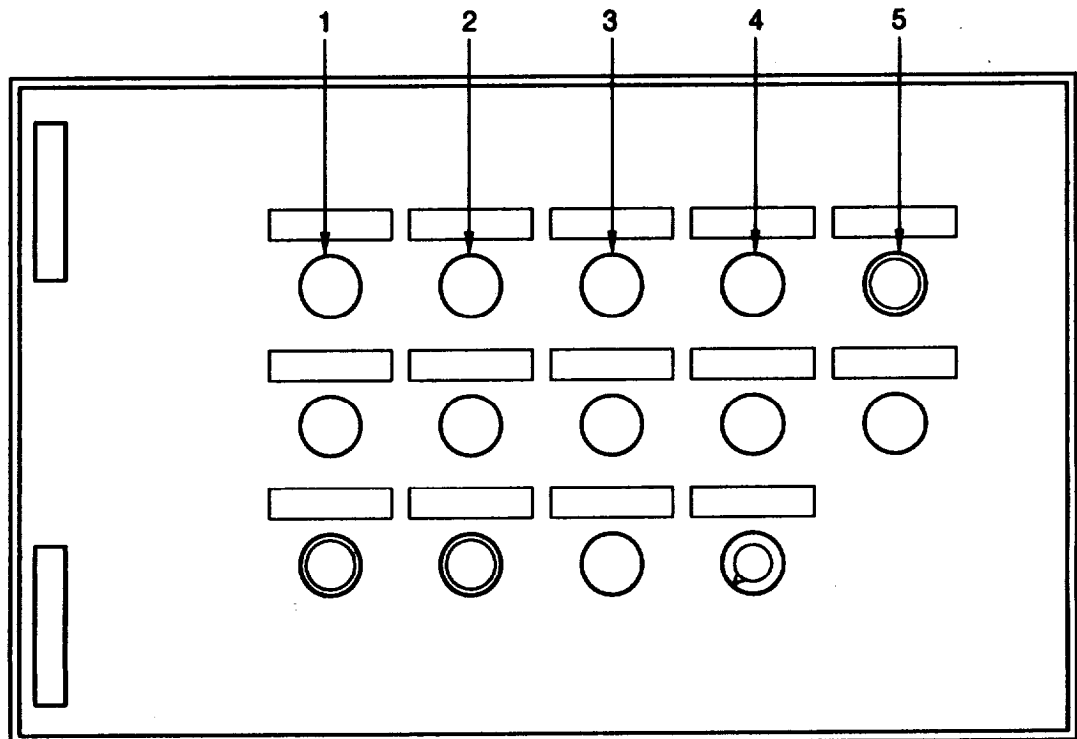

Figure 2-21 Fault Signals on EPP III PDU Control Panel.
d. The following lamps (figure 2-21) indicate shutdown due to fault/overload in the power supply to the loads:
- OVERLOAD-J1-RS1 (1)
- OVERLOAD-J2-RS2 (2)
- OVERLOAD-J3-RS3 (3)
- OVERLOAD-J4-ECS (4)
After remedying a load malfunction, press OVERLOAD RESET pushbutton switch (5, figure 2-21).